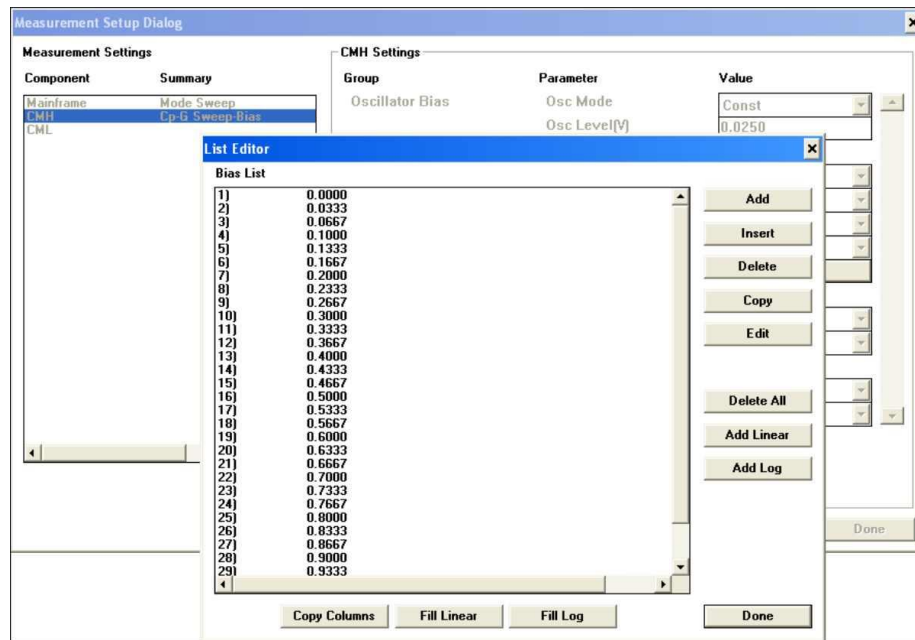

Figure 2: 4284 Setup Configuration for the C_{ibo} Test Setup
2. Configure the controls as shown in Figure 2. Use the mouse or TAB key to move between the different switches and fields.
5. Designate the independent variable of the plot by double-clicking on the appropriate data vector listed in the Data window. Two quantities were measured in the C_{ibo} test setup: capacitance and voltage. There should be two data vectors in the dialog box Data window: "CPA" and "Bias" (according to the data vector labels specified in Figure 2). This example will create a plot of capacitance with respect to the voltage sweep. Since voltage will be the independent variable, select "Bias" for the X-axis.